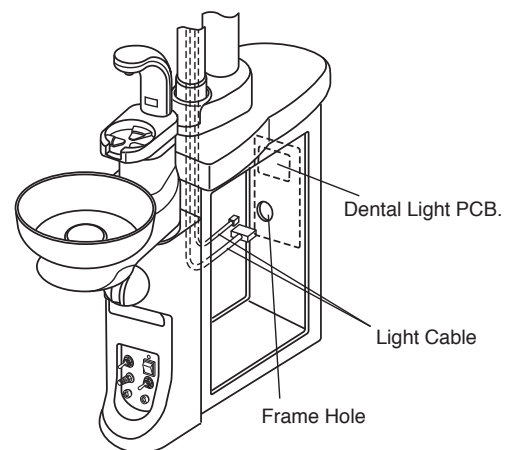

Fig.5-16 Connecting the Dental Light Connectors
F. Pass the light cable through the cuspidor frame hole. Connect the connectors of the dental light cable to the dental light PCB. The dental light PCB is located at the rear side of the cuspidor unit. (Fig.5-16)